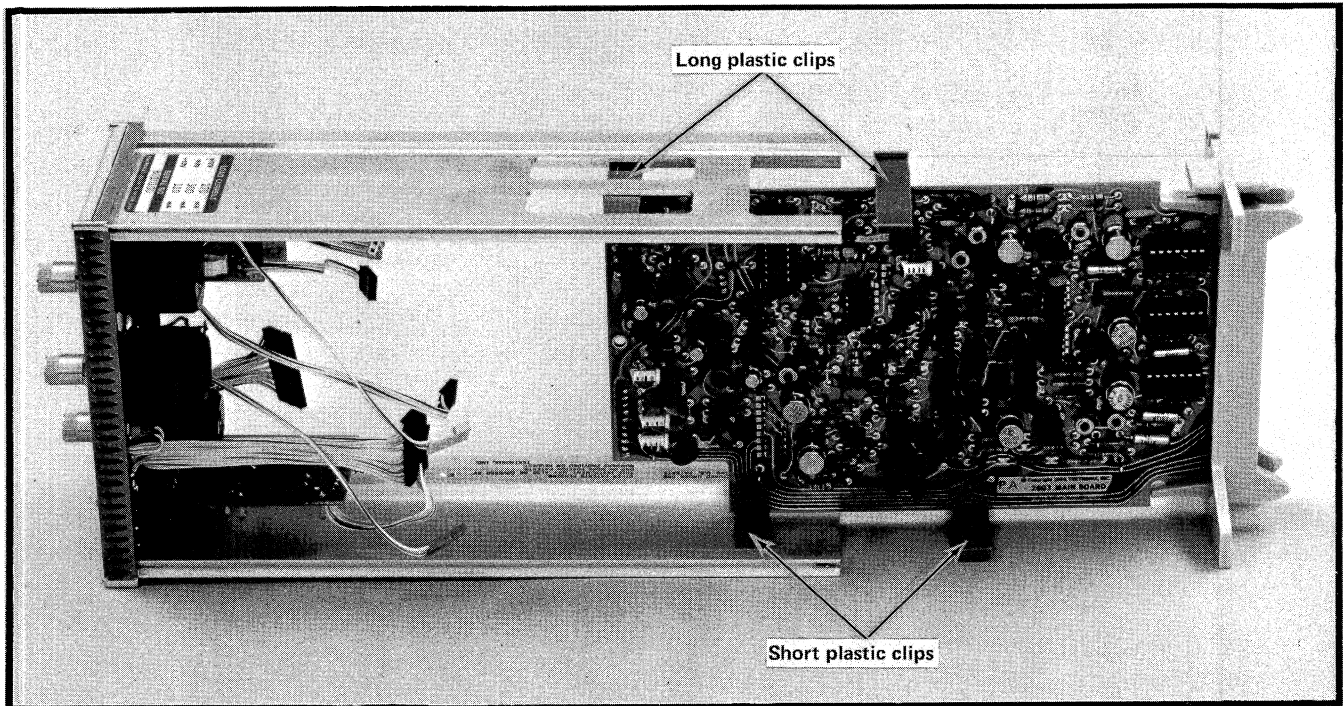

Fig. 4-1. Replacing the circuit board.
1. Place two plastic clips as shown in Fig. 4-1.